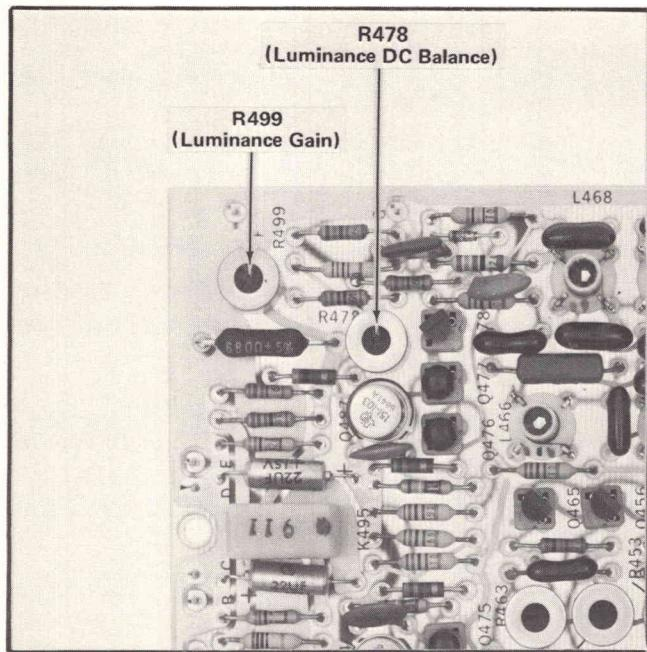

Fig. 5-8. Bar Drive and Video Output board adjustment locations.
I. ADJUST—Luminance Gain control, R499 (see Fig. 5-8) until the 100 IRE level line and the blanking level are aligned.
- ADJUST**—Luminance DC Bal control, R478, (see Fig. 5-8) until the blanking level of the display exactly coincides with the reference established in part b of this step.